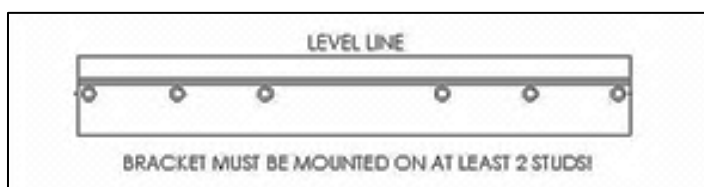

Figure 6 – Wall Mounting Bracket – NOTE: Drawing for Demonstration Purposes ONLY
a. The building frame (studs) must be 2 X 4 minimum and 16" on center (24" on the EFT-399). If not, you must use ½" minimum plywood 24" x 48" with at least fourteen (14) #12 x 3" (3/16" x 3") round head tapping screws to the frame of the building to provide proper support for the boiler. No alternate methods of mounting or fastening (ex. Toggle bolts, hollow wall anchors, or any other fastener) may be used.
d. Predrill pilot holes on the marked stud locations. The pilot holes for bare studs should be 2" deep for all EFT models. See table below for pilot hole diameter by wood type. Increase length for any material covering the stud. Ensure that the predrilled holes are straight and square to the wall. Failure to do so could lead to insufficient support or out of level boiler. See Figure 6.
c. Predrill holes on the marked stud locations. The predrilled holes should be $\frac{1}{2}$ " in diameter for $\frac{3}{16}$ " bolts, and $\frac{3}{4}$ " in diameter for $\frac{3}{8}$ " bolts, to allow for the collapsed wings of the toggle to slide through. Ensure that the predrilled holes are straight and square to the wall. Failure to do so could lead to insufficient support or out of level boiler. See Figure 6.